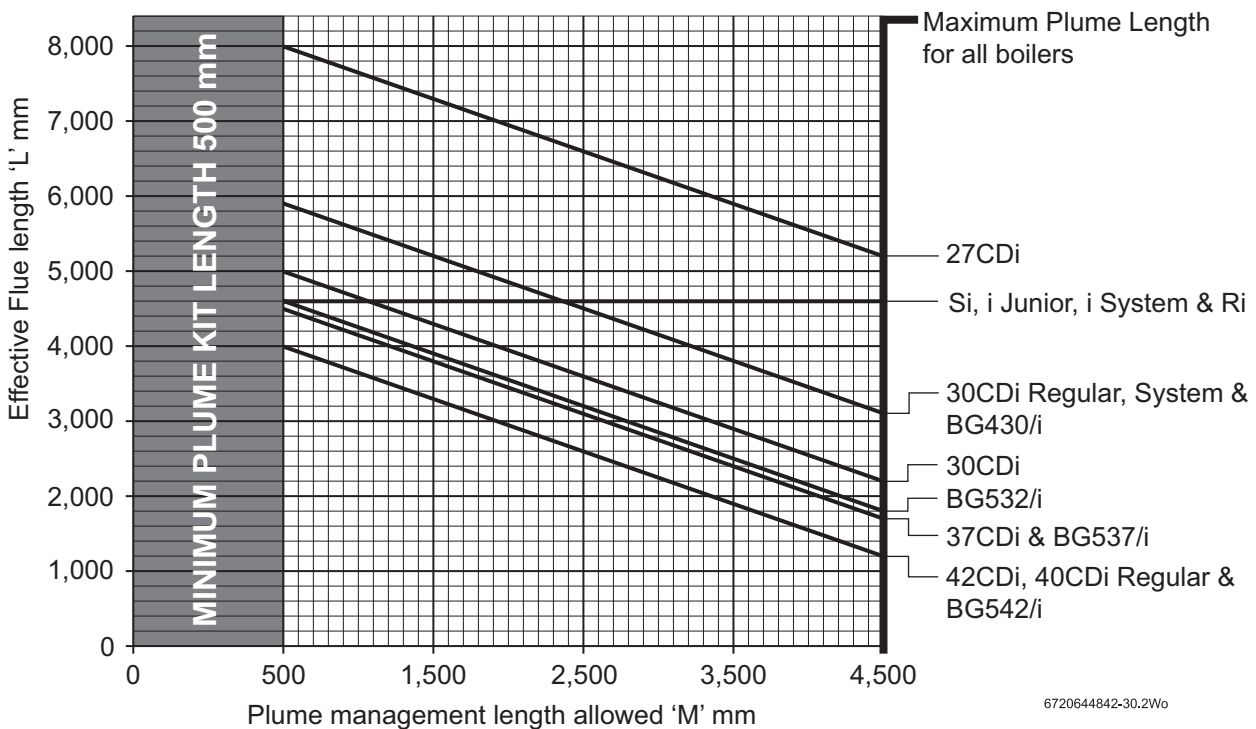

Fig. 33 Effective flue lengths versus plume management lengths
Refer to figure 33 to determine the appropriate plume length versus the flue length (L).
All boilers have a maximum permissible plume management length, refer to figure 33.